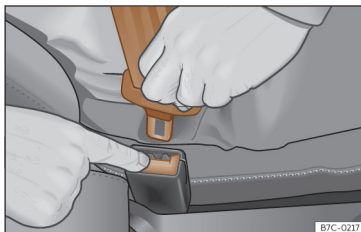

Fig. 22 Release the seat belt's latch plate.
Only unfasten the seat belt when the vehicle has come to a standstill >>> **Fig. 22.**
- Press the red button on the buckle >>> **Fig. 22.** The latch plate is released from the buckle.